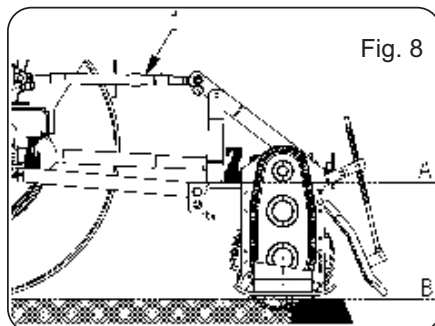

Fig. 8
- 4) Connect the upper third-point and correctly regulate by means of the adjuster (1 Fig. 8), checking that the upper surface of the machine (A Fig. 8) is parallel to the ground (B Fig. 8).